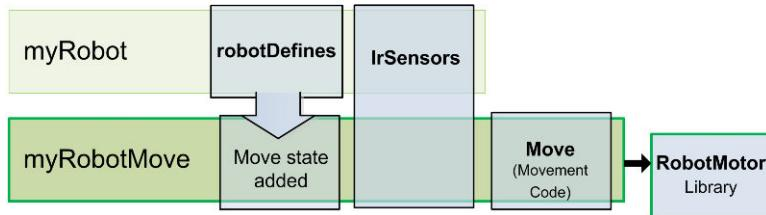

Figure 7-1. myRobotMove Sketch
- MyRobotMove.ino—This sketch shows how to use higher level movement functions. Constants for defining the current robot movement are added to the robotDefines tab. A new tab named Move is added that contains the high level movement functions. The IrSensor tab and RobotMotor library are unchanged (Figure 7-1).